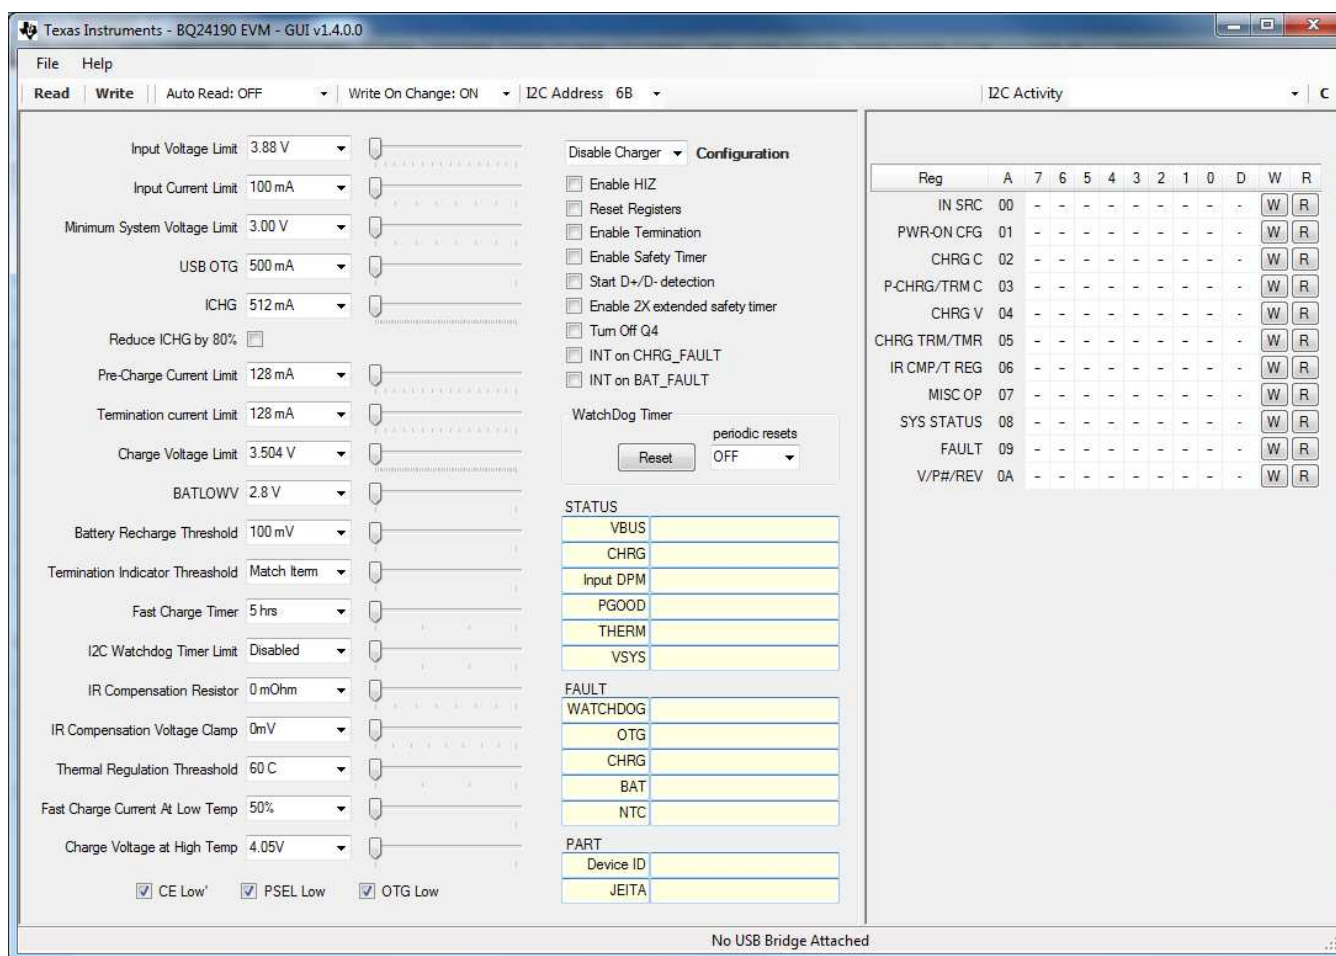

Figure 3. Main Window of the bq2419x Evaluation Software
8. Turn on the computer. Launch the bq2419x evaluation software. The main window of the software is shown in Figure 3.